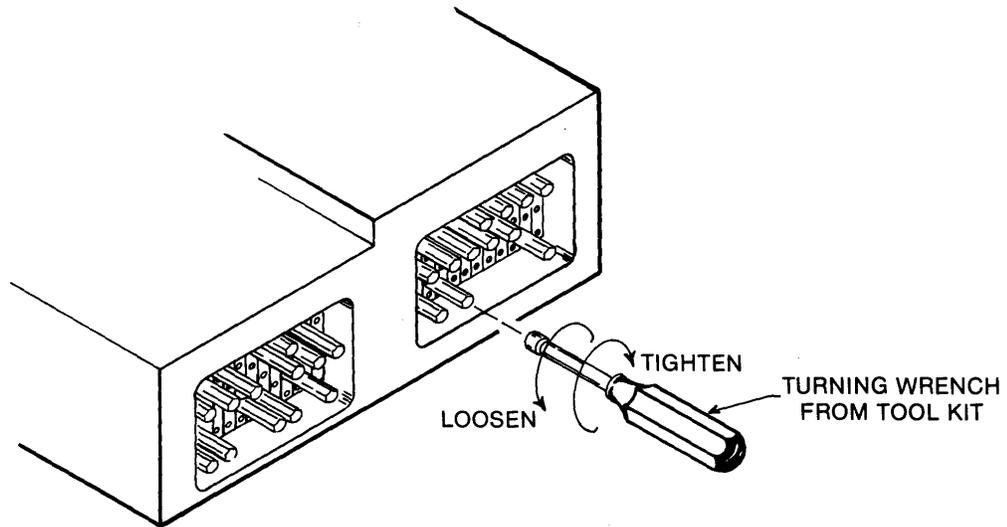

FIG. 2-2A
1. Loosen the tuning nut with the tuning wrench enough for the rod to slip off the pull bar (figure 2-2a).